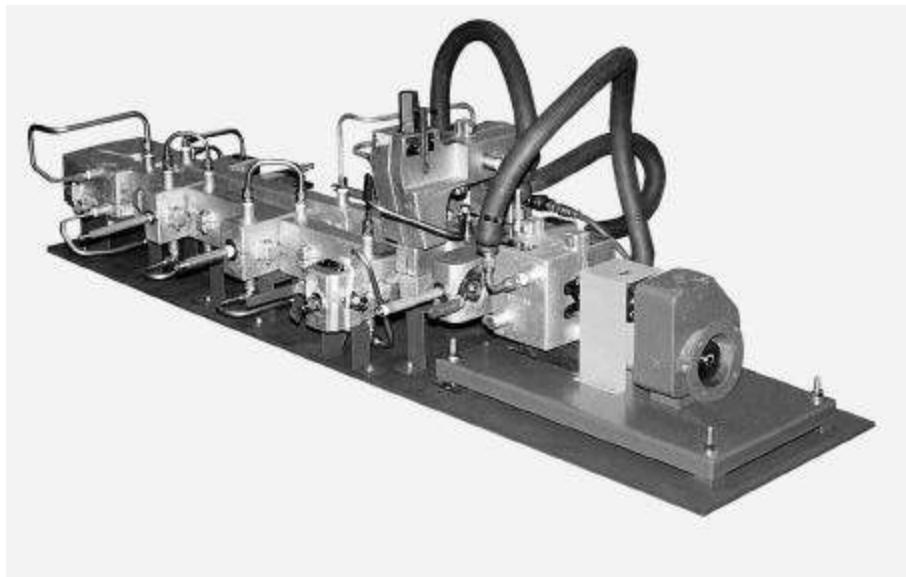

Figure 10
2. Bolt-on jacketing was selected for a pilot plant that needed relatively quick equipment rearrangement so that the products and processes under development could be tested with various pieces of equipment (Fig. 10). Fast equipment change-out with uniform heating was the major design contribution of the bolt-on heating system.